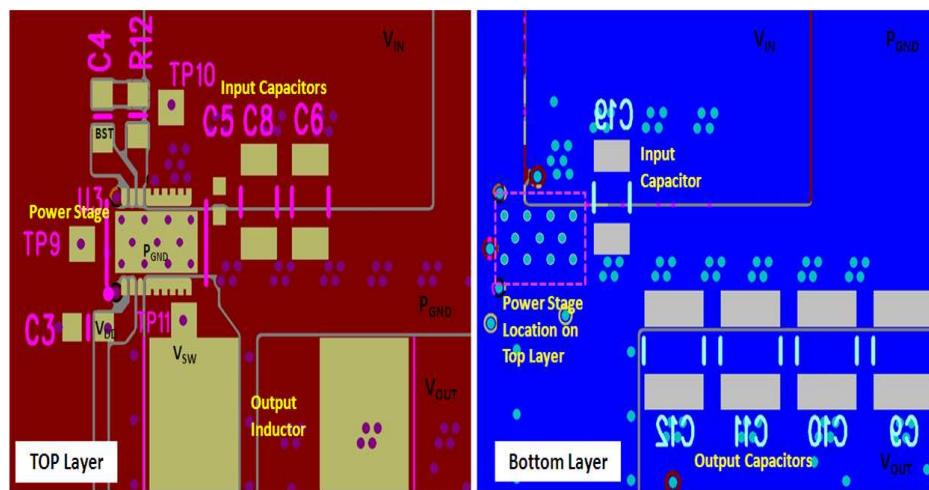

Figure 16. Recommended PCB Layout (Top Down View)
- The placement of the input capacitors relative to V_{IN} and P_{GND} pins of CSD97374Q4M device should have the highest priority during the component placement routine. It is critical to minimize these node lengths. As such, ceramic input capacitors need to be placed as close as possible to the V_{IN} and P_{GND} pins (see Figure 16). The example in Figure 16 uses 1 x 1-nF 0402 25-V and 3 x 10-μF 1206 25-V ceramic capacitors (TDK Part # C3216X5R1C106KT or equivalent). Notice there are ceramic capacitors on both sides of the board with an appropriate amount of vias interconnecting both layers. In terms of priority of placement next to the power stage C5, C8 and C6, C19 should follow in order.
- Use the smallest drill size allowed in your design. The example in Figure 16 uses vias with a 10-mil drill hole and a 16-mil capture pad.